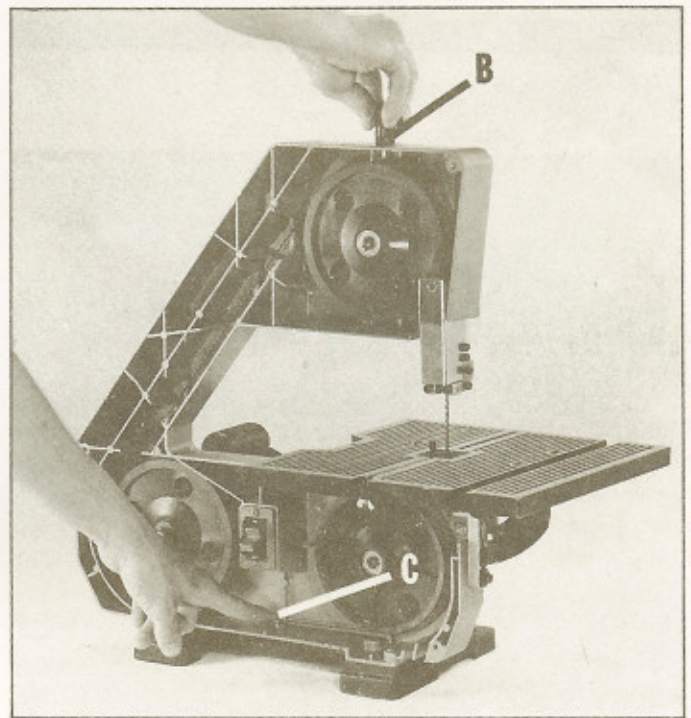

Fig. 9
3. Turn blade tension adjusting knob (B) clockwise until blade is tensioned. Blade tension can be checked by pushing down on the blade midway between the two lower wheels at point (C) Fig. 9. The blade should move slightly with firm finger pressure.